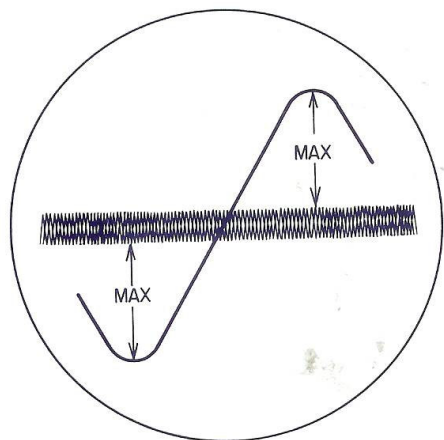

Fig. 8
- (2) Turn the core of the output transformer T_2 on the front end so that the horizontal stripes visible in the center of the waveform in Fig. 8 and maximum amplitude is located in the center of the S-shaped curve. At this time, the horizontal stripe should be symmetrical at about the center line.